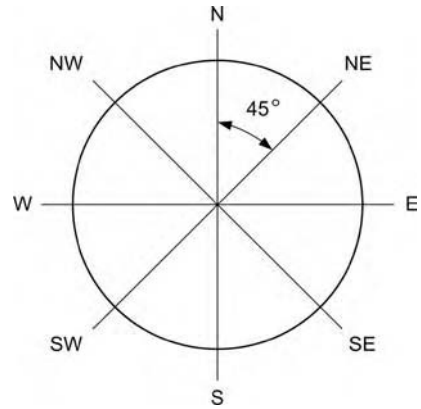

Figure 2.28 Bearings.
The four primary points of the compass are north (N), south (S), east (E) and west (W). Remembering that there are 360° in a circle, then the eight points of the compass that include NE, SE, SW and NW are each off-set from one another by 45° as shown in Figure 2.28.